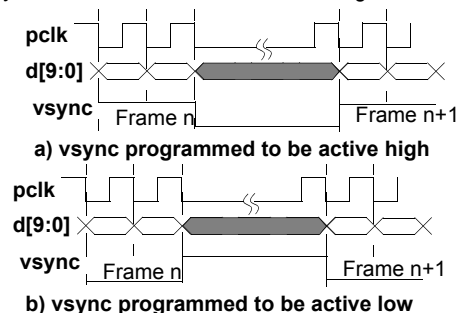

Figure 46. **vsync** in Level Mode
- **Level mode** should be used when the pixel clock, **pclk**, is programmed to operate in *free running mode*. In level mode the **vsync** output pin will go to the specified level (high or low) at the start of each frame and remain at that level until the last pixel of the last row in the frame is placed on **d[9:0]** as shown in Figure 46. The **vsync** level is always synchronized to the active edge of **pclk**. The **vsync** pin is put into level mode by setting the *VsyncMode* bit of the DVBUSCONFIG1 register to a logic 0. The active level of the **vsync** is programmed using the *VsyncPol* bit of the DVBUSCONFIG1 register.